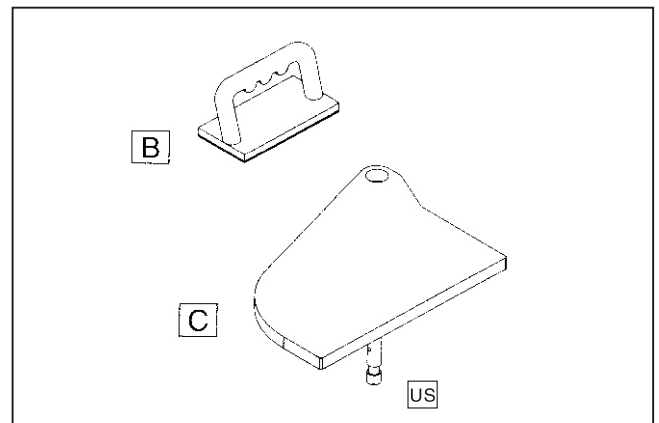

Figure 1. Common components
- Common Components (Figure 1 & 3) Qty
9. Press the ON button, then immediately press the OFF button on the magnetic box (**Figure 1, Page 4**).